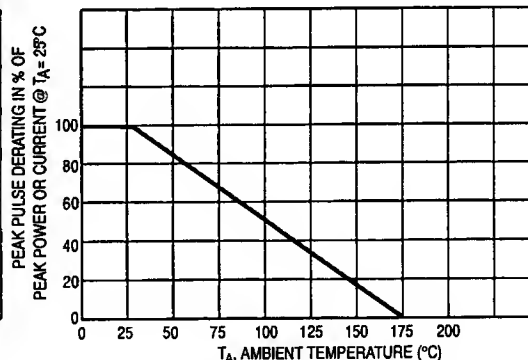

Figure 2. Pulse Derating Curve
5. Surge current waveform per Figure 4 and derate per Figure 2 of the General Data – 1500 W at the beginning of this group